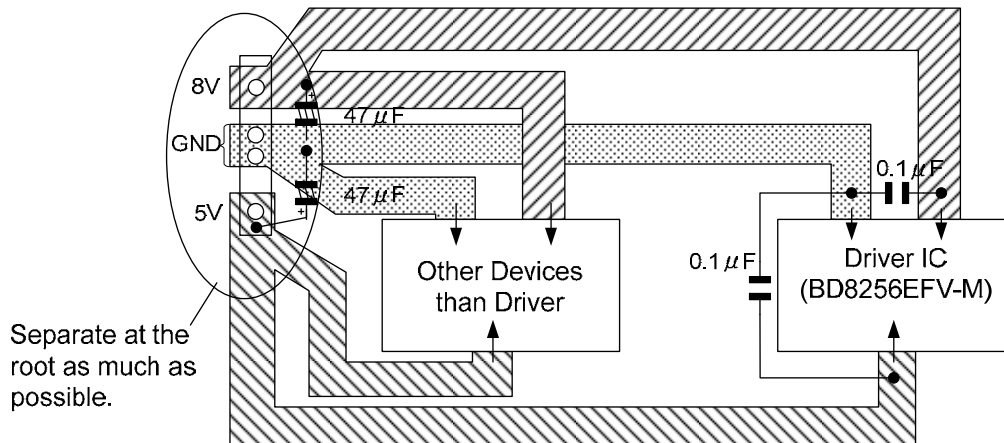

Figure 28. Pattern Example
- (1) Reduce impedance in wiring for the driver's 8 V power supply (SPRNF, SLRNF 1, SLRNF 2, VCC), 5V power supply (FCTLRNF, TKRNF) and power GND (SPGND, SLGND, ACTGND) lines where high current flows. Make sure that they be separated from power supply lines of other devices at the root so that they do not have common impedance. (Figure 28)